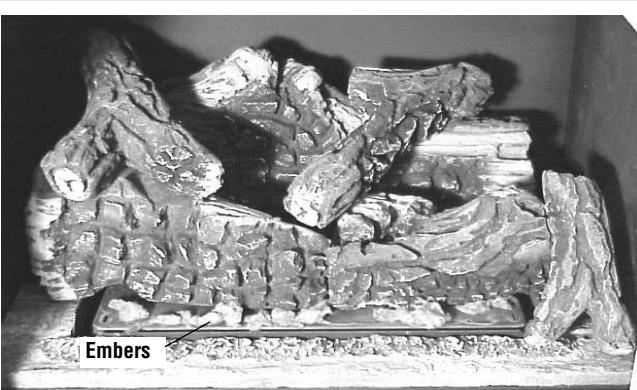

Figure 25
- 9.** Place the glowing embers on the burner as shown in **Figures 25 and 26**.
IMPORTANT: The quantity and placement of the ember material can affect stove performance therefore it is very important that it be placed as shown in **Figures 25 and 26**.